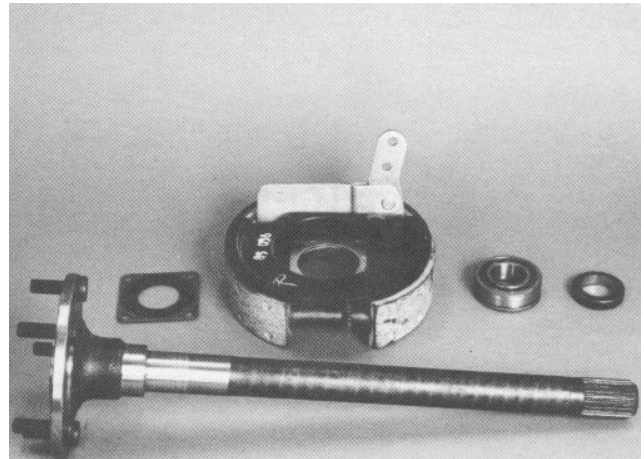

Figure 12
8. Inspect the shaft for possible damage (Fig. 12). Inspect the sealing surface of the hub and shaft. Replace it if the seal has grooved the surface more than 1/64 inch (0.4 mm).